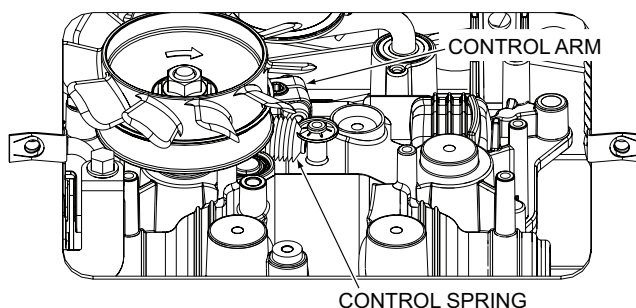

Figure 6-7. Transmission Control Arm and Spring
9. Adjust the cable until you see a slight movement in the control arm and spring on the transmission. See Figure 6-7.